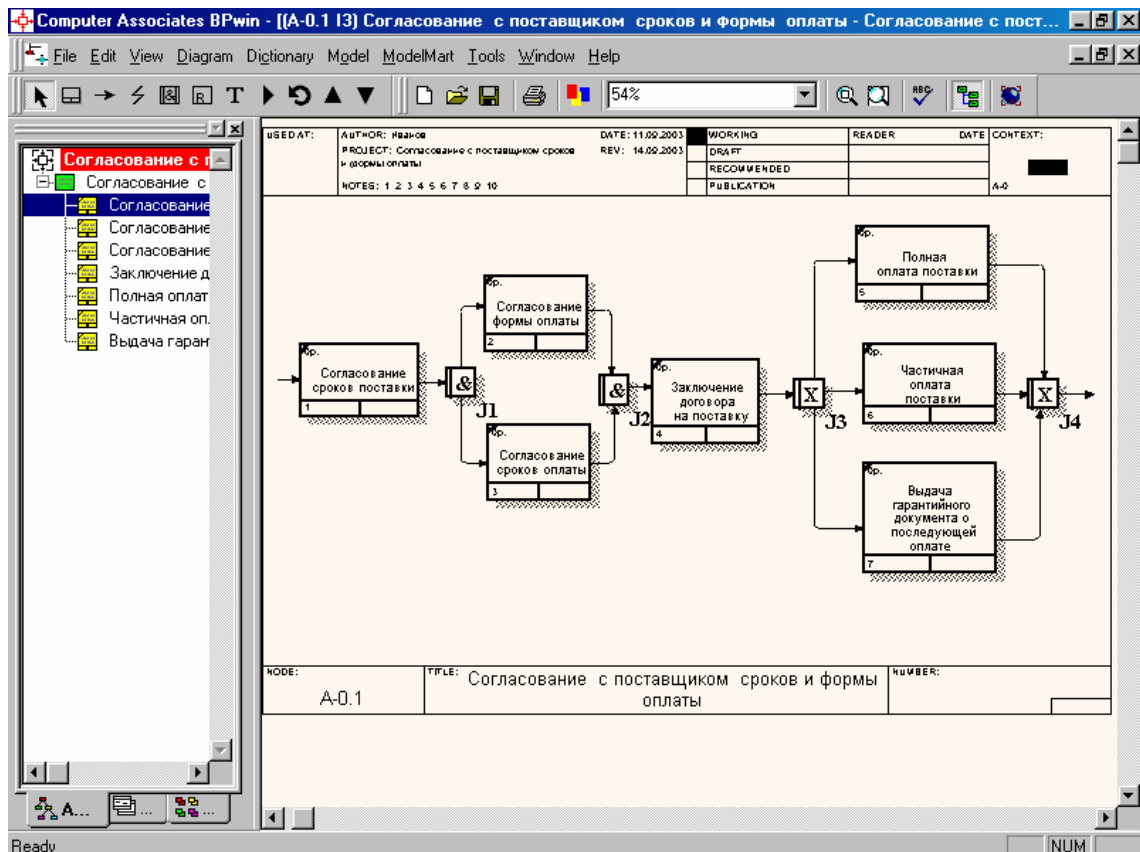

Figure 1.17
3. Place the works on the diagram as shown in Figure 1.17.
4. Create an intersection on the diagram. To add an intersection, click the Junction Tool, and then click where you want to place the intersection. Types of intersections and their location in the diagram are shown in Figure 1.17. the choice of types of intersections was determined by the following considerations:
5. Place the inner and boundary arrows on the diagram, as shown in Figure 1.17.